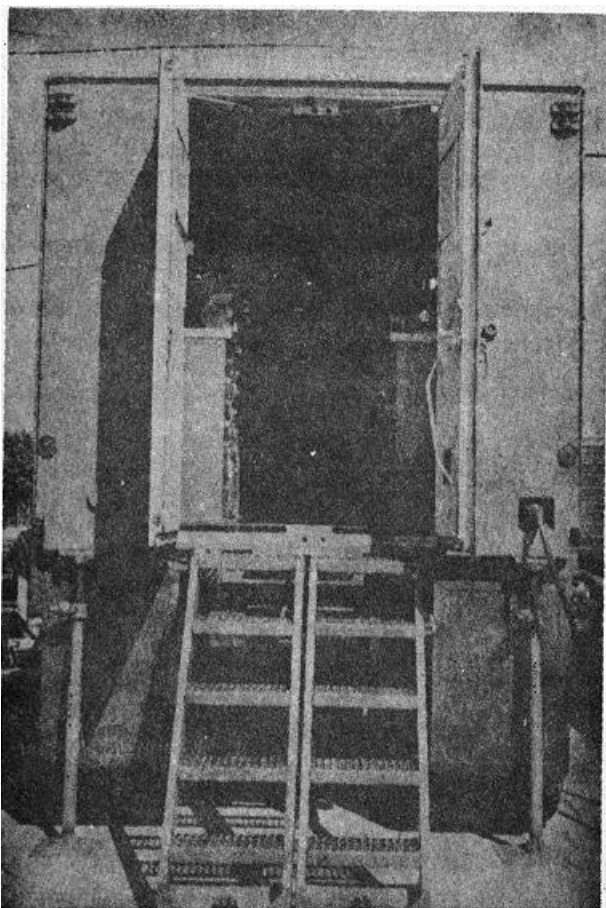

Figure 28. Positioning rear entrance ladders and opening rear doors.
- (4) Remove entrance ladders from rear doors and position as shown in figure 28.
- (5) Open right rear door (fig. 28 and TM 9-2330-238-14).